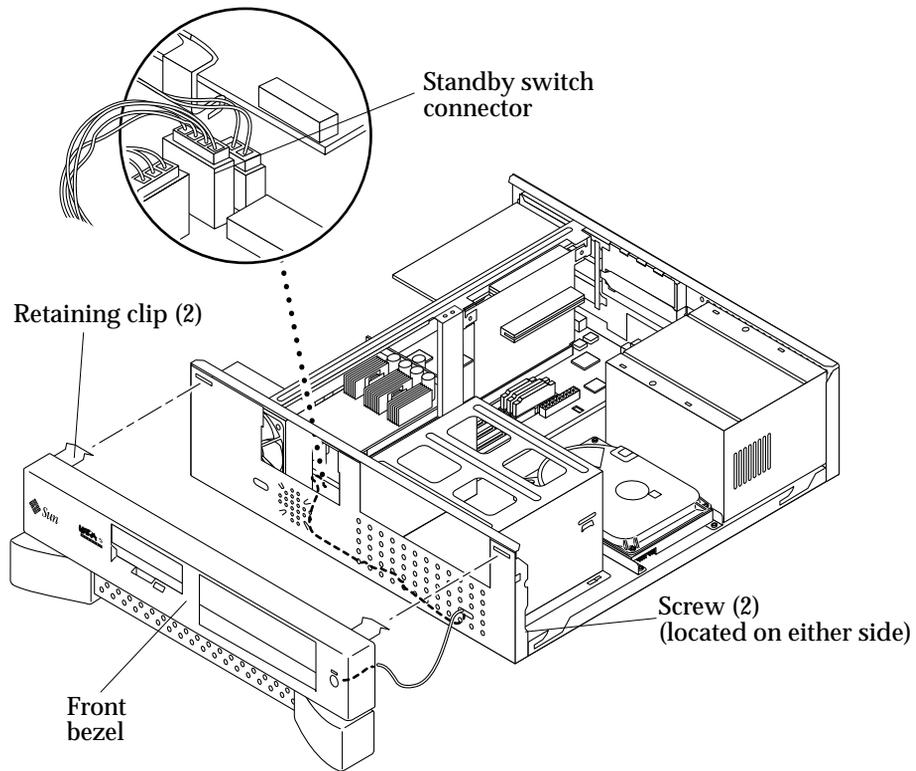

FIGURE 8-15 Removing and Replacing the Front Bezel (Ultra 5)
5. Remove the front bezel from the Ultra 5 as follows (FIGURE 8-15):
2. **Replace the Ultra 5 front bezel as follows (FIGURE 8-15):**